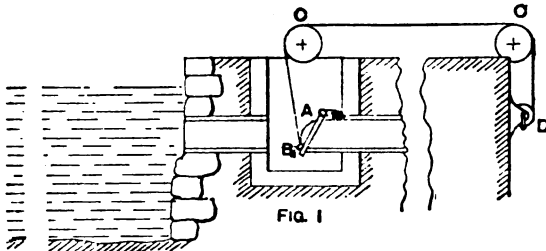

FIG. 1
**Waterwheel Sluice.**—Below is described a method (workable from the wheelhouse) of stopping the flow of water in a pipe used with a waterwheel. Assuming that the mouth of the pipe at the dam is not flush with the stonework, but is recessed about 12 in., the simplest way to stop the flow of water would be to build a small chamber of brickwork set in cement behind the masonry dam, as shown in Fig. 1. Over the mouth of the pipe leading to the wheel arrange a flap valve A. At the lower part is an eye B, to which is fastened a small chain. This chain passes over the two pulley wheels C to the ratchet windlass D, placed in the wheelhouse. Sufficient chain only will be required to pass over the